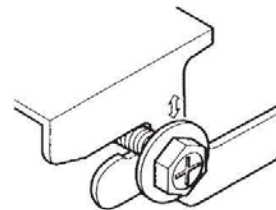

Fig.7
(5). Lift the unit and slide forward until the unit is in place. (Refer to Fig.7)